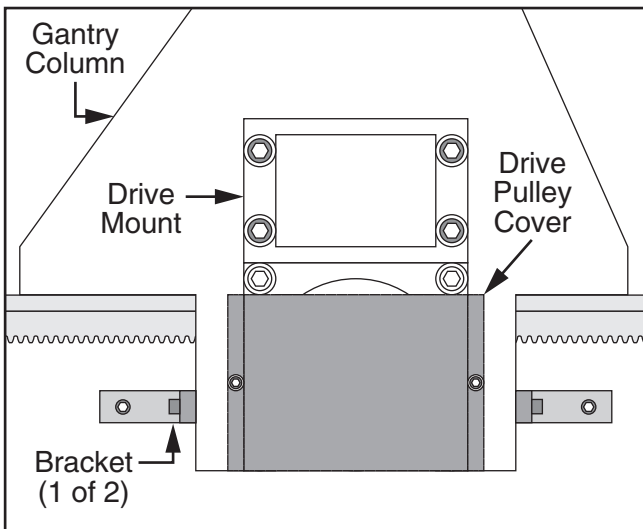

Figure 18. Gantry column drive pulley cover and brackets location.
2. Remove drive pulley covers and brackets securing gantry on left and right gantry columns (see **Figure 18**).